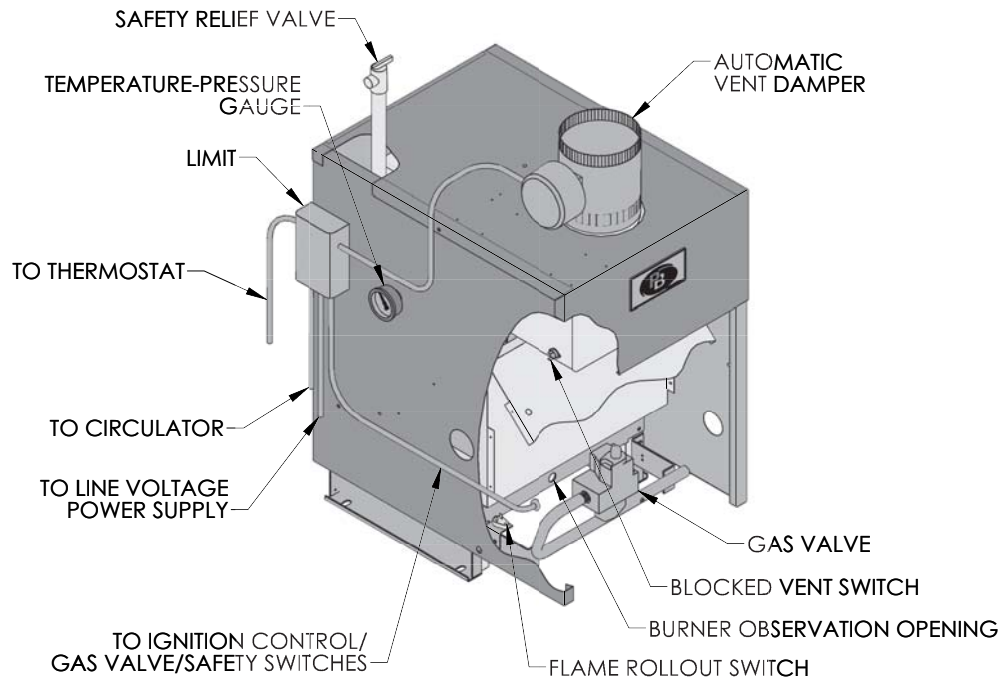

Figure 1: Control Locations
- Limit.** See Figure 1. A device which automatically interrupts boiler operation when the water temperature exceeds the set point. Maximum allowable temperature is 240°F (115°C).
- Flame Rollout Switch.** See Figure 1. A device which automatically interrupts boiler operation when flames or excessive heat are present in the combustion area. The control is a single use device. If the control is activated to interrupt boiler operation, do not attempt to place boiler in operation. Contact a qualified service agency.
- Blocked Vent Switch (Vent Safety Shutoff Switch).** See Figure 1. A device which automatically interrupts boiler operation when there is a blockage in the vent pipe or chimney. The control is a manual reset device. The control is located on the draft hood relief opening. If the control was activated to interrupt boiler operation, do not attempt to place boiler in operation. Contact a qualified service agency.
5. **Gas Valve.** The gas valve regulates gas flow to the burners and pilot. See Figure 1.